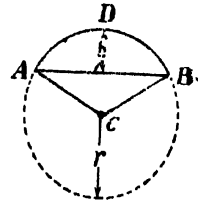

Fig. 4·22
11. Spherical Zone. (Fig. 4·23)